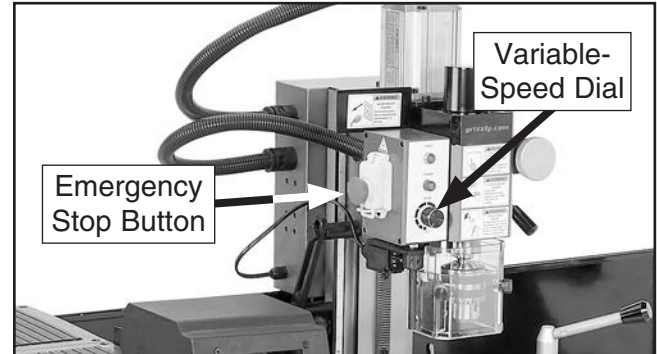

Figure 20. Location of mill head Emergency Stop button and variable-speed dial.
- Turn variable-speed dial (**Figure 20**) completely counterclockwise to lowest possible setting.
- Open Emergency Stop button switch cover (**Figure 20**) and reset switch in the same manner as you did in **Step 8**. The mill power light should illuminate if machine is correctly connected to power supply and all electrical controls are positioned correctly for startup.